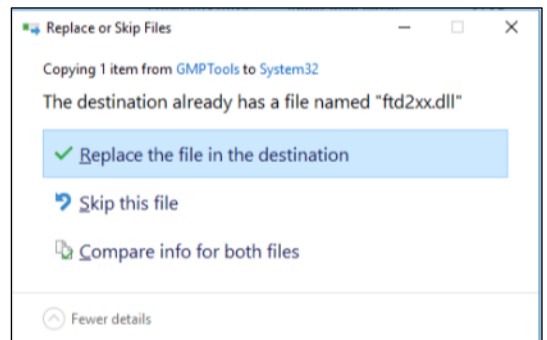

Fig. 2.1
- If the file already exists, it will need to be replaced at the destination (Fig. 2.1)